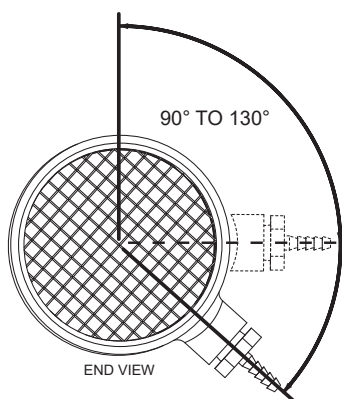

**Figure 24. Intake Air Connection Hose Barb Angle Range for Proper Operation**
Ensure that the hose barb installed in the Tee fitting **IS NOT** facing down towards the ground (180° - 6 o'clock position) before venting installation begins. The barb fitting must be angled between 90° and no more than 130° as shown in **Figure 24** (page 31). If the barb fitting is facing down, residual condensate that occasionally forms in the intake-air pipe can drain into the Blocked Intake Air switch through the attached sensing tube and damage the switch. This condition can also lead to Blocked Intake Air fault conditions and associated control system lockouts.
The intake-air Tee fitting is factory-installed with the 1/2 inch branch and hose barb angled to the right at approximately 130° when viewed from the end. See **Figure 24**. The Tee fitting's 1/2 inch branch and hose barb must not be angled any lower (towards the ground) than this factory specification. Angling higher, up to a 90° position, will not adversely affect operation and is acceptable.
Inspect the angle of the tee fitting's 1/2 inch branch and hose barb while viewing from the end of the tee. See **Figure 24**. If the angle of the tee fitting 1/2 inch branch and hose barb is lower than shown, adjustment will be necessary. To adjust the intake-air tee fitting angle, follow the steps listed below.
4. Adjust the angle of the tee fitting so that the 1/2 inch branch and hose barb are at the proper angle as shown in **Figure 24**.